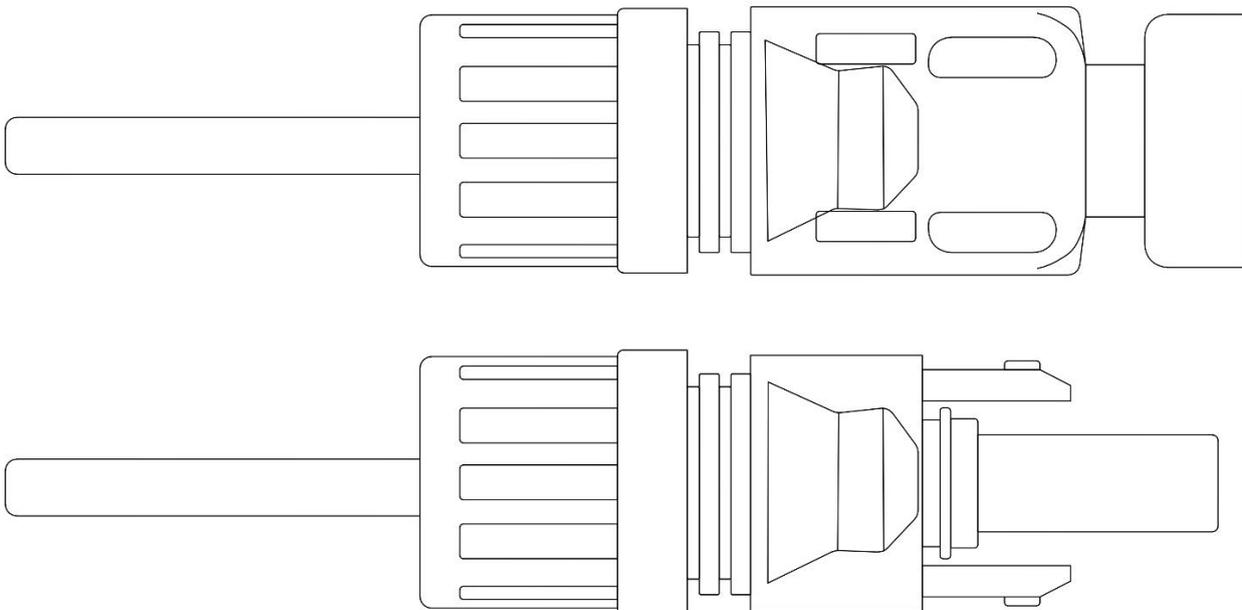

Figure 2.13 Stylus inserted into the top of the connector
3) Insert the stylus into the top of the connector and screw the cover nut to the top of the connector. figure 2.13 .